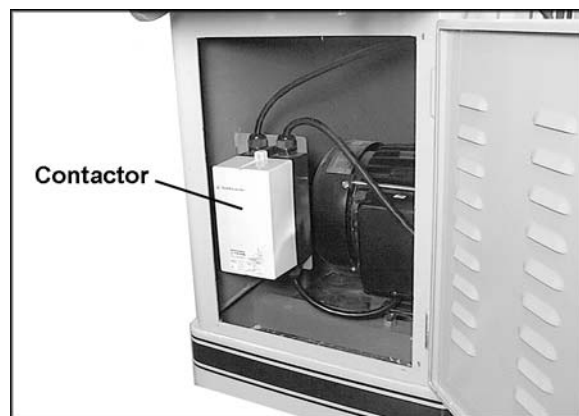

Figure 7
4. Replace the 230 volt contactor (see Figure 7) with the 460 volt contactor (stock no. PJ1285-109B). The 460 volt contactor is available through your authorized Powermatic distributor, or by calling 1-800-274-6848.